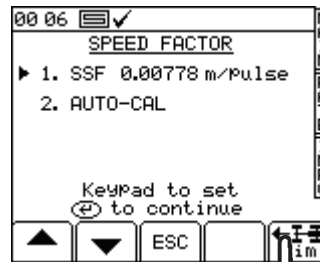

fig. 58
- >  Simulated speed (Fig. 58).